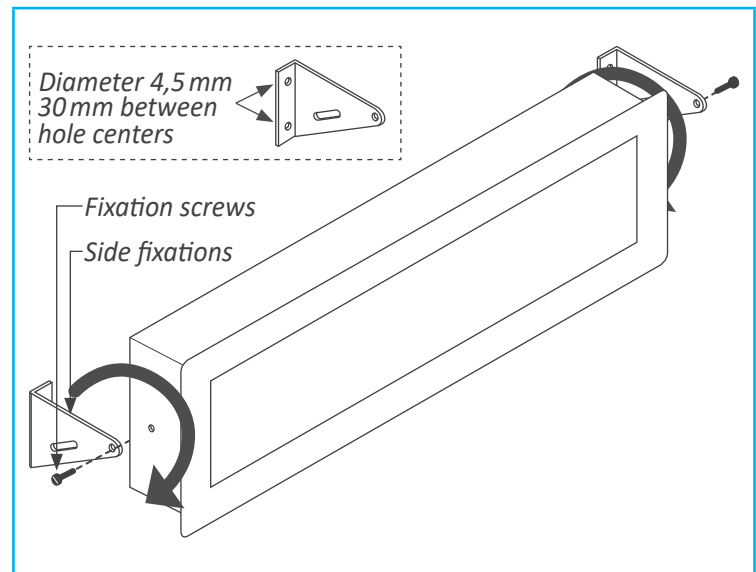

Figure 17 - Wall mount
- Wall mount. Mount the side fixations against the wall, as shown (see Figure 17). Each fixation has 2 holes with 4,5 mm diameter and a separation between hole centers of 30 mm. Once the side fixations are secured against the wall, place the instrument and press the fixation screws slightly. Tilt the instrument to the desired viewing angle and firmly screw the fixation screws.